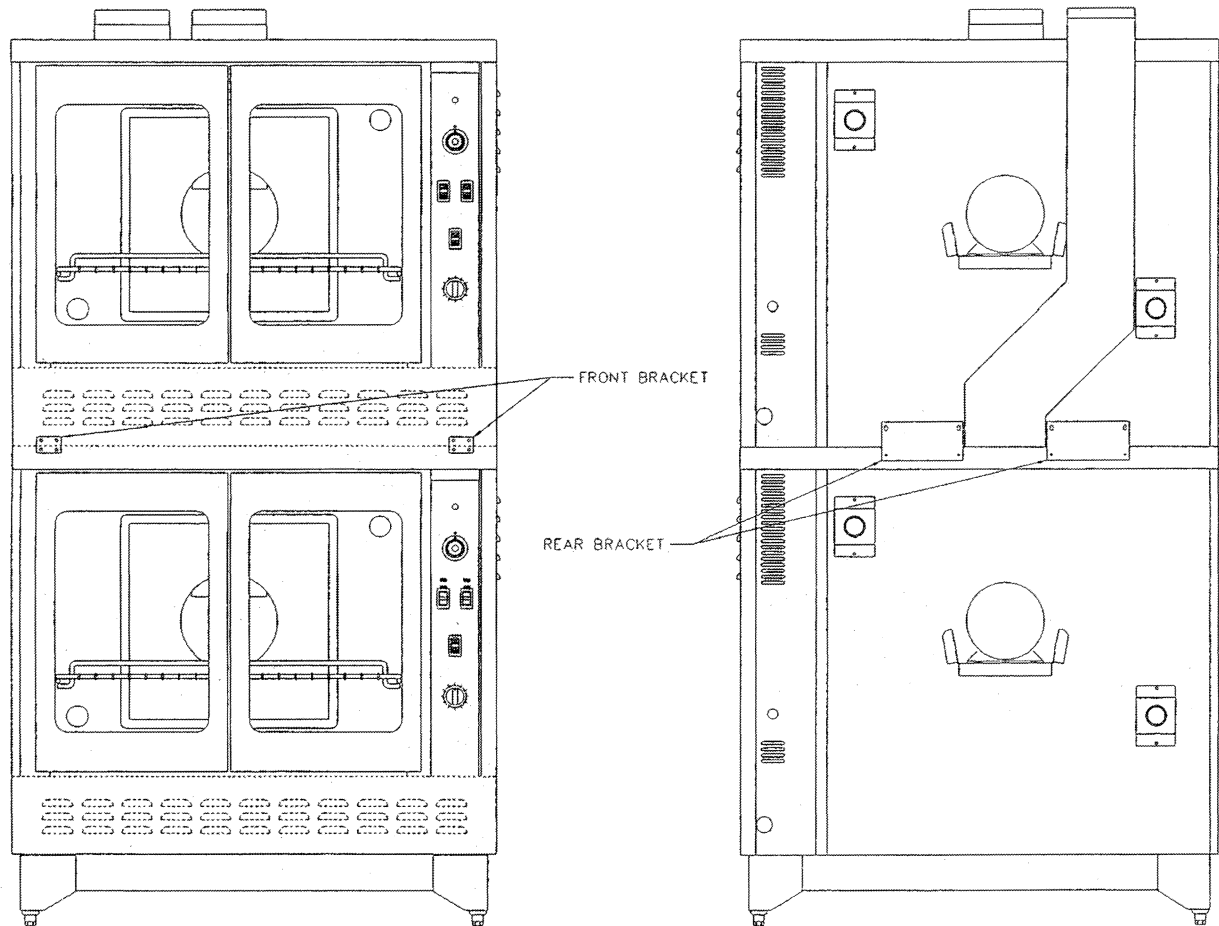

FIGURE 2
3. Bolts down at rear and front as shown in Figure 2. Remove top kick plate to access screwing the front bolts.
4. Assemble bottom flue extension as shown in Figure 2.